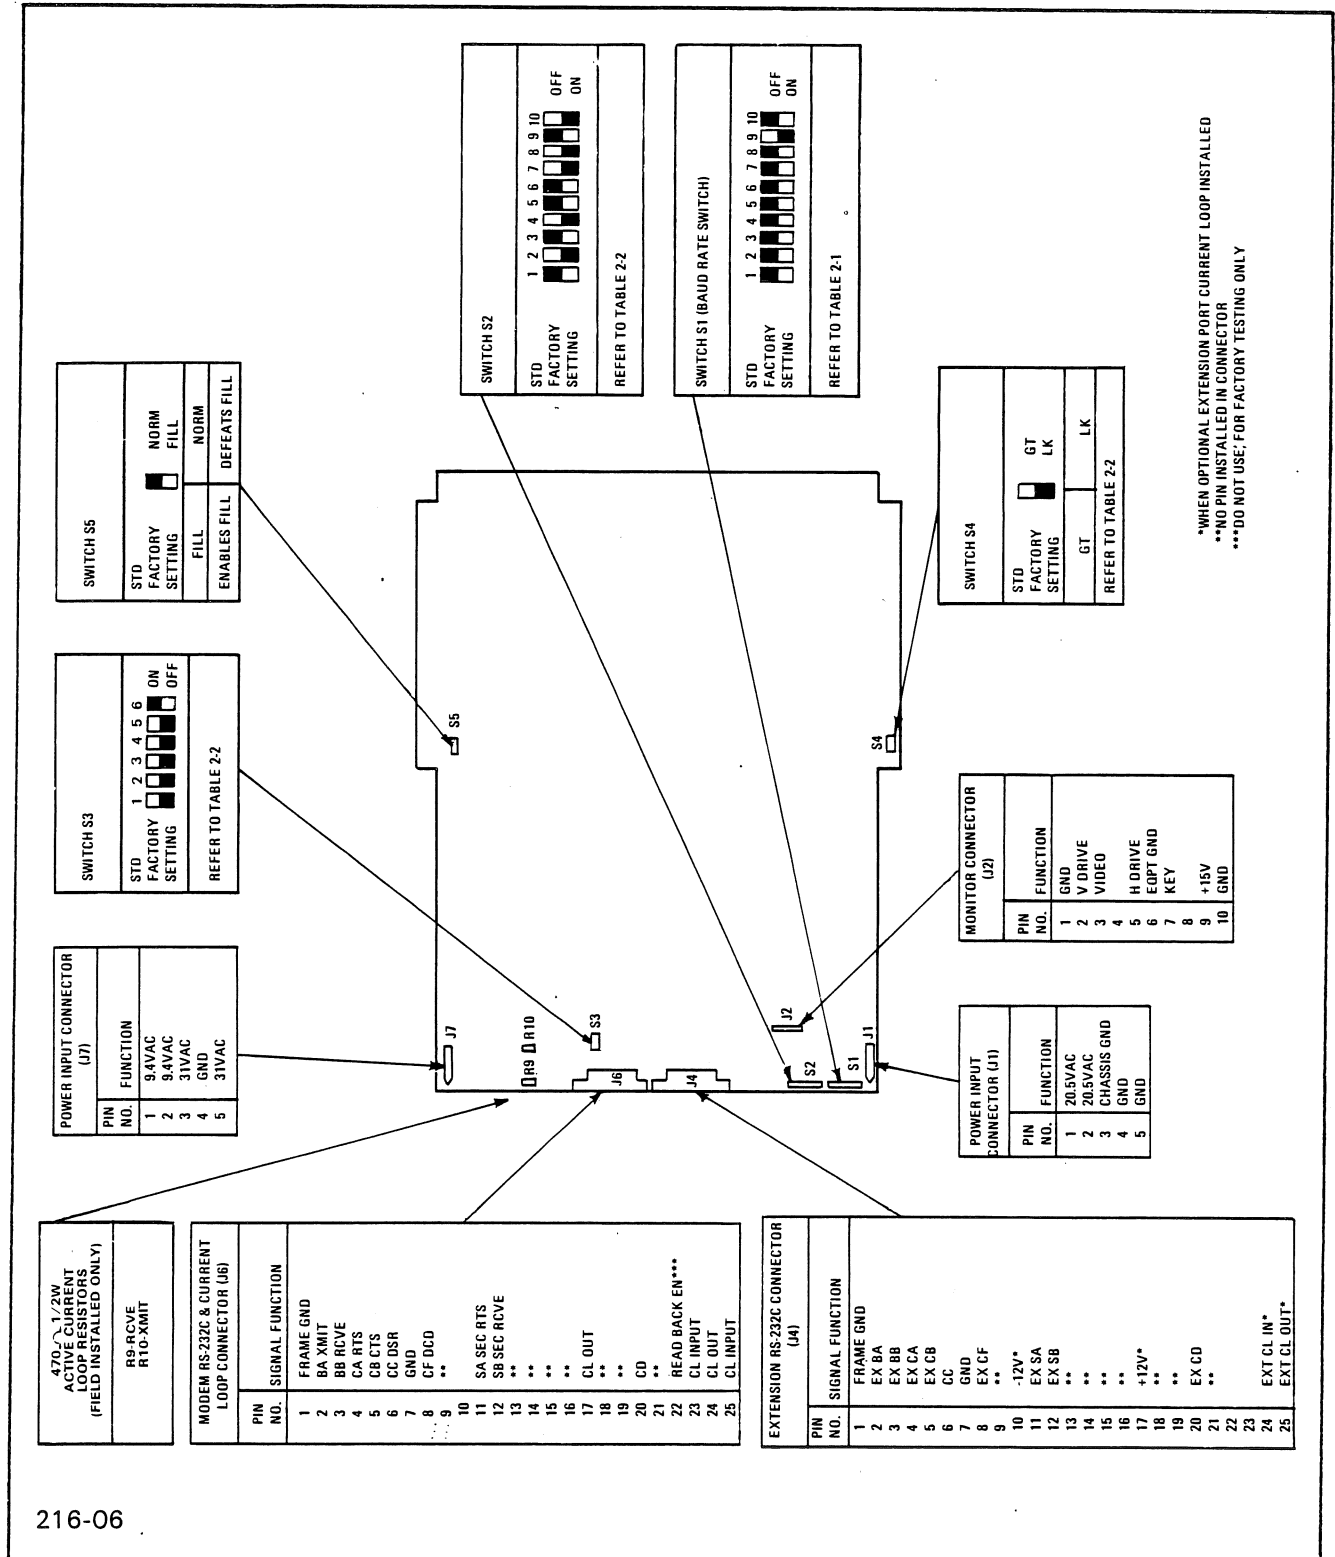
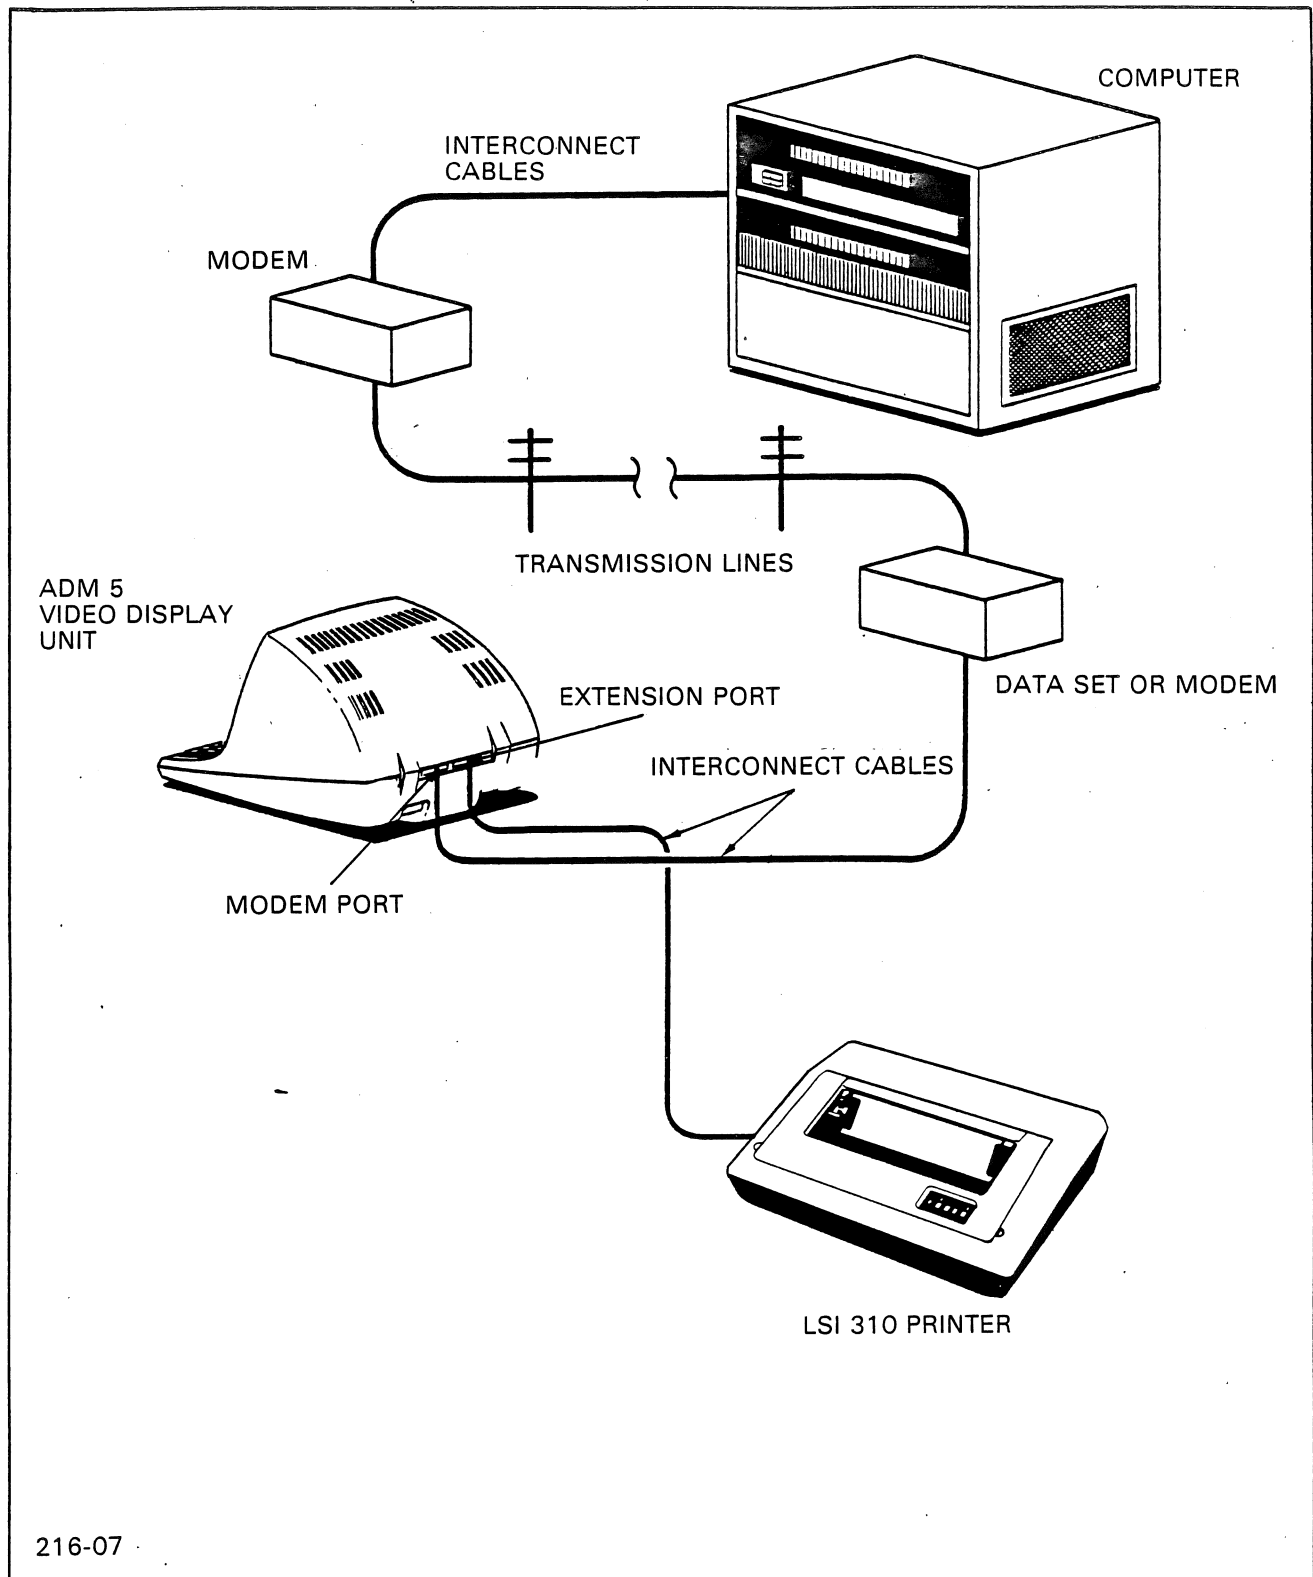

Figure 2-1. ADM 5 Connector and Configuration Switch Locations
Figure 2-2. Typical ADM 5 Application
switches are initially set at the factory in accordance with customer requirements, as expressed on the Terminal Ordering Form. Any required switch settings should be made before attempting to operate the terminal. **Figure 2-1** shows the location and identity of the configuration control switches, as well as connector/pin designations. **Tables 2-1** and **2-2** describe the function and factory setting of each switch.
in the world. Remote computer connections require the use of a modem or data set. **Figure 2-1** shows the connector/pin assignments for the MODEM and EXTENSION ports. **Figure 2-2** shows several typical ADM 5 interfaces.
2. Connect the interconnect cable(s) using the appropriate information in **figures 2-1** and **2-2**.